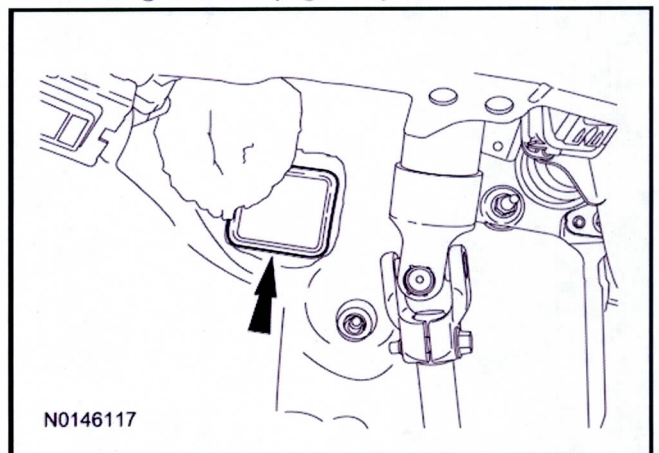

Figure 6 - Article 13-1-5
24. Position the carpet aside and locate the grommet located in the bulkhead just left of the steering column. (Figure 6)